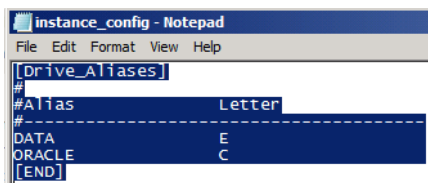

Figure 316. Edit Drive Specification
2. Edit the instance_config file. An example is shown in Figure 316